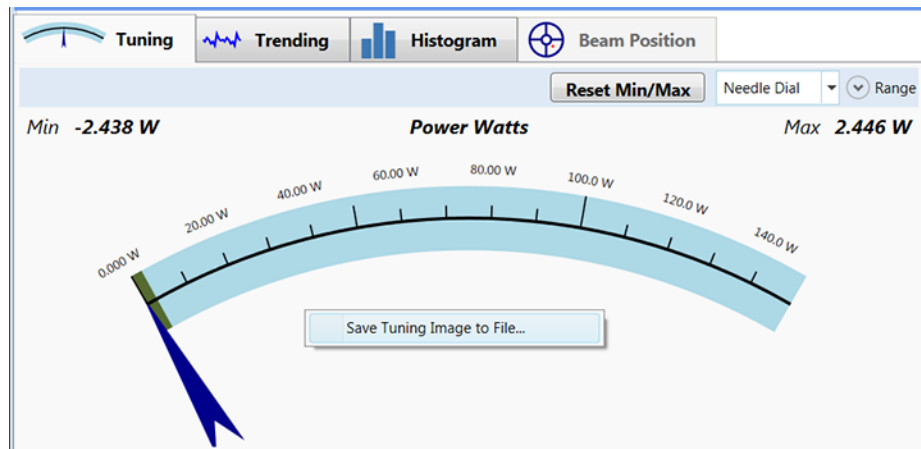

Figure 6-11. Tuning Tab—Save Tuning Image
1. Right-click in the Tuning window. The command shown in Figure 6-11 is displayed: